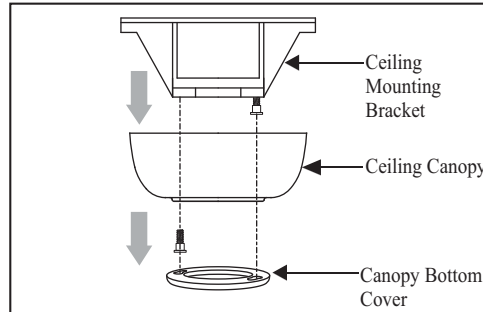

Figure 7
1. Remove the decorative canopy bottom cover from the canopy by turning the cover counter clockwise. (Figure 7)
2. Remove the mounting bracket from the canopy by removing the 1 of 2 screws from the bottom of the mounting bracket and loosening the other one a half turn from the screw head. Next, turn the canopy counter clockwise to removing the mounting bracket from the canopy. (Figure 7)